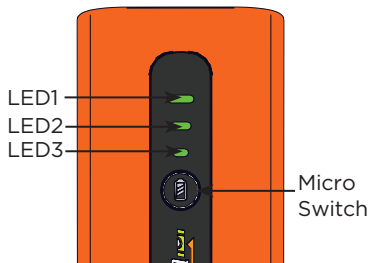

Figure 1
2. Check the fuel gauge status of the Li-ion battery. Press the micro switch on the battery. Note which LEDs light up. See the table below to determine the power status of the battery. The LEDs will turn off after three seconds. (*Figure 1*)